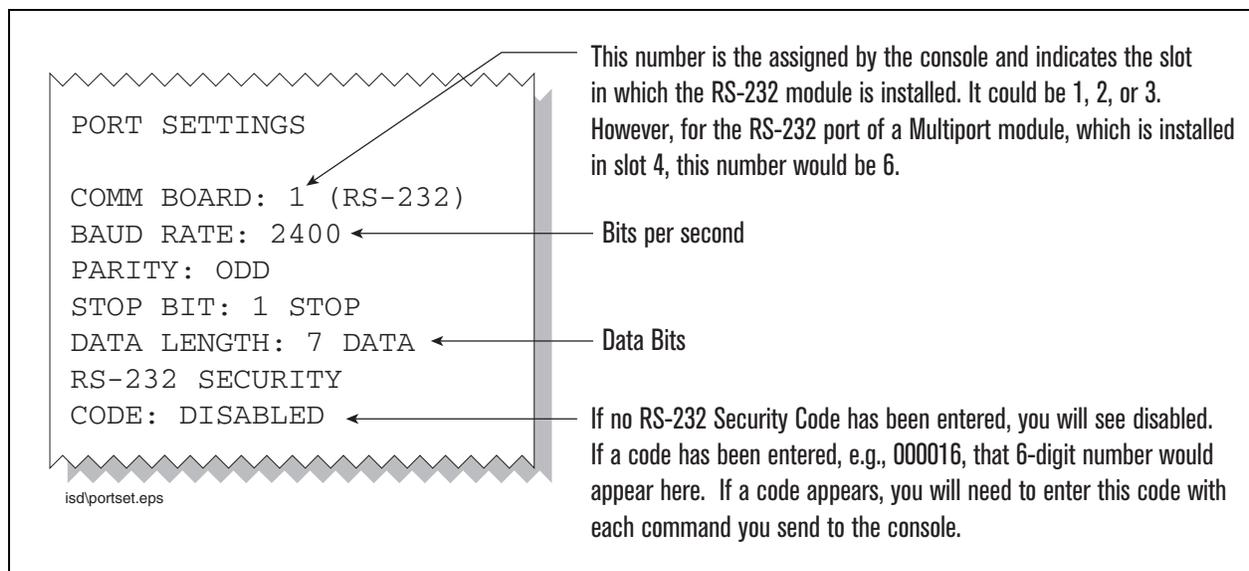

Figure 36. Console comm port settings printout example
- d. Press the PRINT key to printout the port settings for all communication modules installed in the console. Figure 36 shows an example port settings printout with the RS-232 module installed. Using the console port settings in the example below, your HyperTerminal 'Port Settings' window entries would be Bits per second - 2400, Data bits - 7, Parity - Odd, Stop Bits - 1. For the 'Flow Control' entry select None. Click OK.